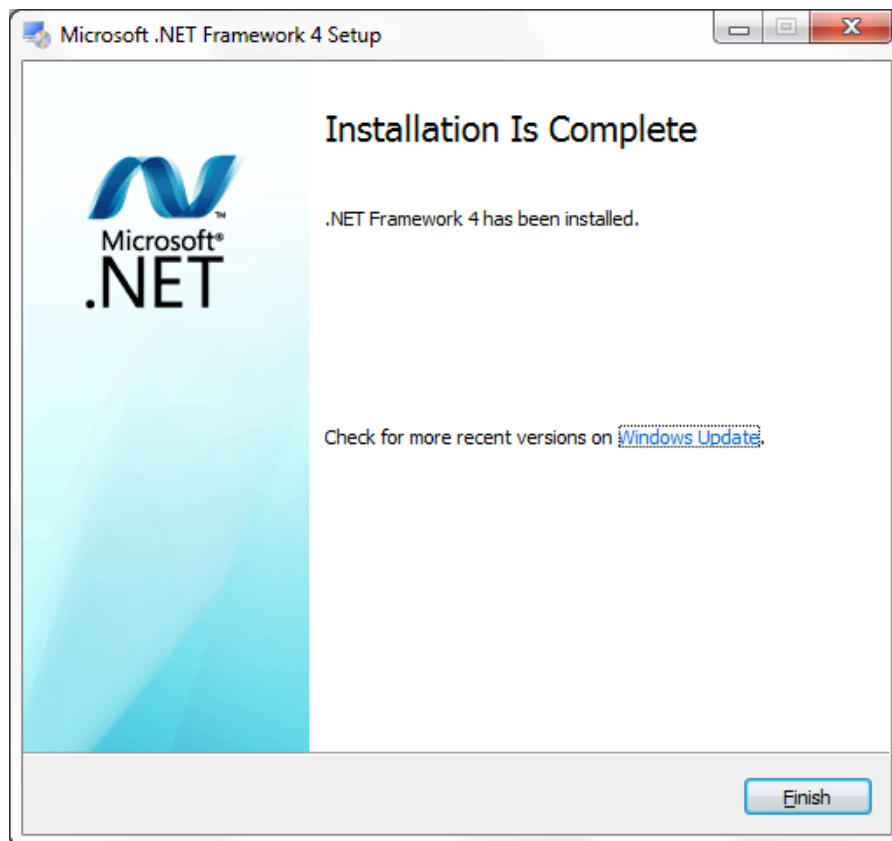

Figure III.1.15: End of installation of Microsoft .NET 4.0.
- Installation is complete. See Figure III.1.15.